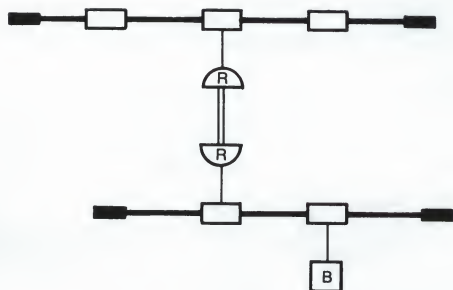
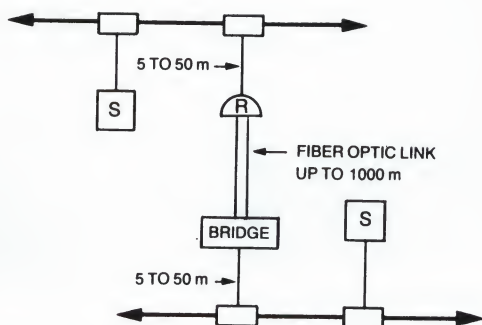

Figure A-11 ▪ Remote Repeater
Figure A-16 ■ Remote Bridge/Repeater Combination
- A remote repeater (DEREP) amplifies the signal between two standard Ethernet coaxial cables by transmitting the signal over a combination of transceiver cables and fiber optic link (Figure A-11).
- The remote bridge/repeater combination joins two LANs and amplifies the signal by transmitting it over a combination of transceiver cables and fiber optic link (Figure A-16).
- There can be up to two repeaters between a station and a bridge. A repeater used in combination with a bridge (as in Figure A-16) counts as a single repeater, whereas two repeaters paired over a fiber optic link (see Figure A-11) count together as a single repeater.